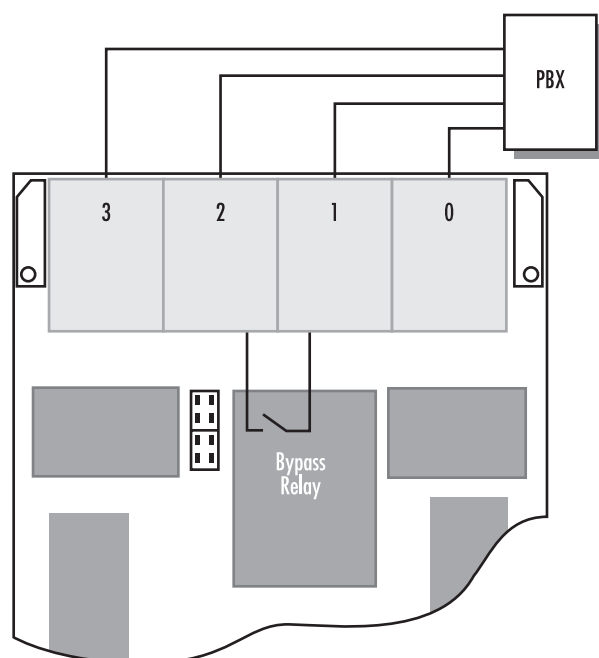

Figure 18. All four ports connected to PBX
- All four ports (ports 0–3) are connected to a subscriber PBX as shown in figure 18 on page 40.